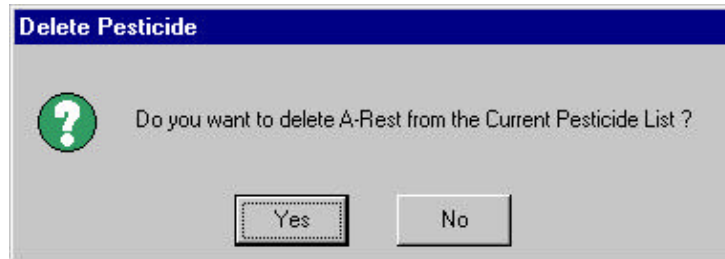

Figure 12.79
- c. A prompt box appears (Figure 12.79).